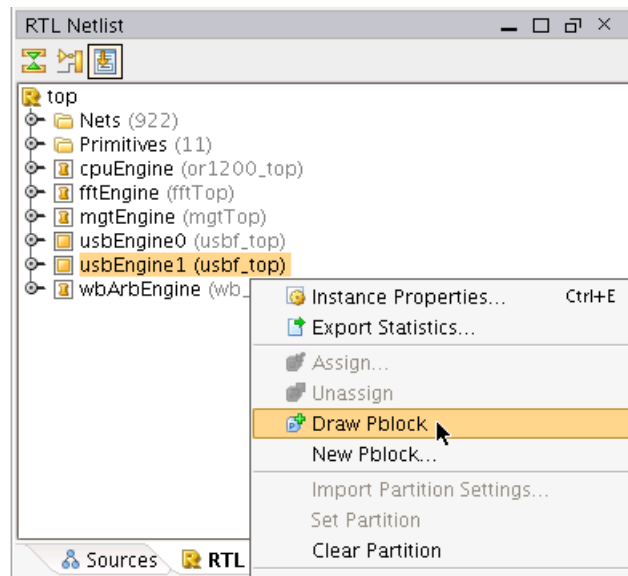

Figure 1-3: Selecting the Draw Pblock Tool
1. From the Netlist window, select and right-click **usbEngine1**, and select **Draw Pblock** (Figure 1-3).